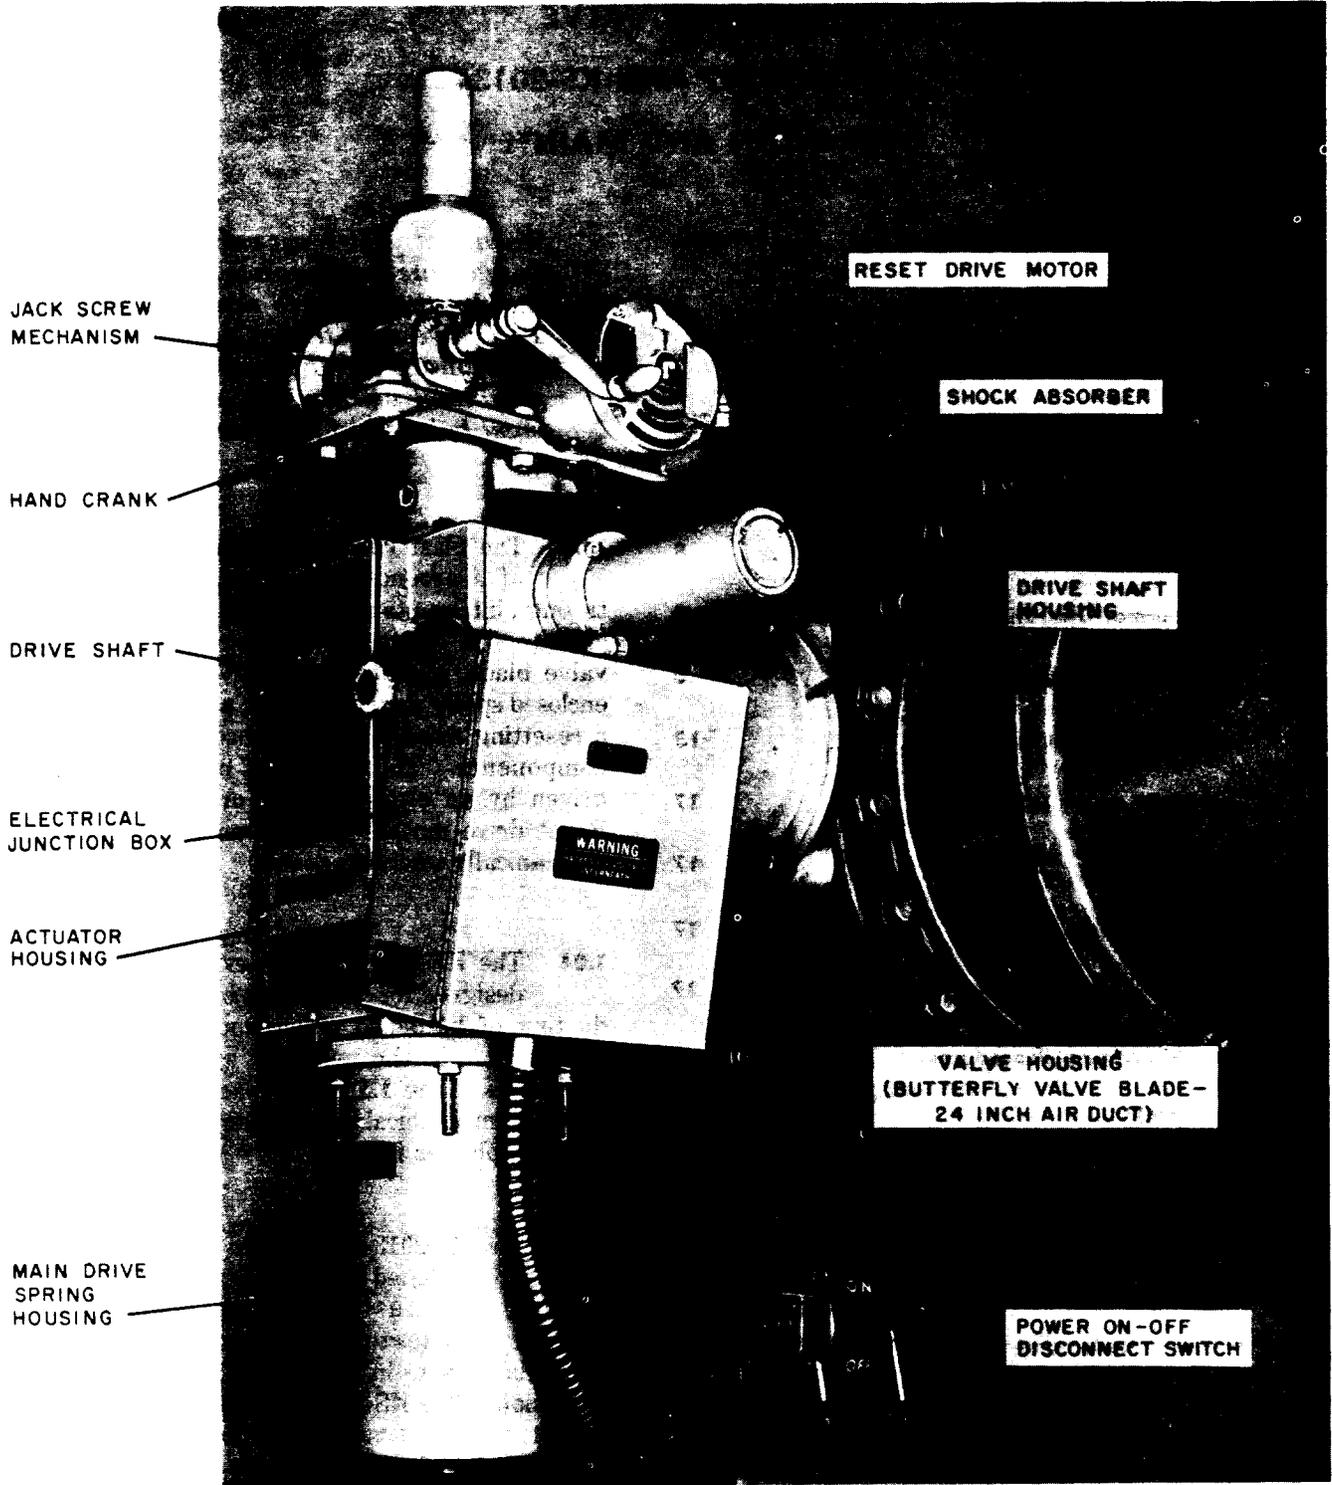
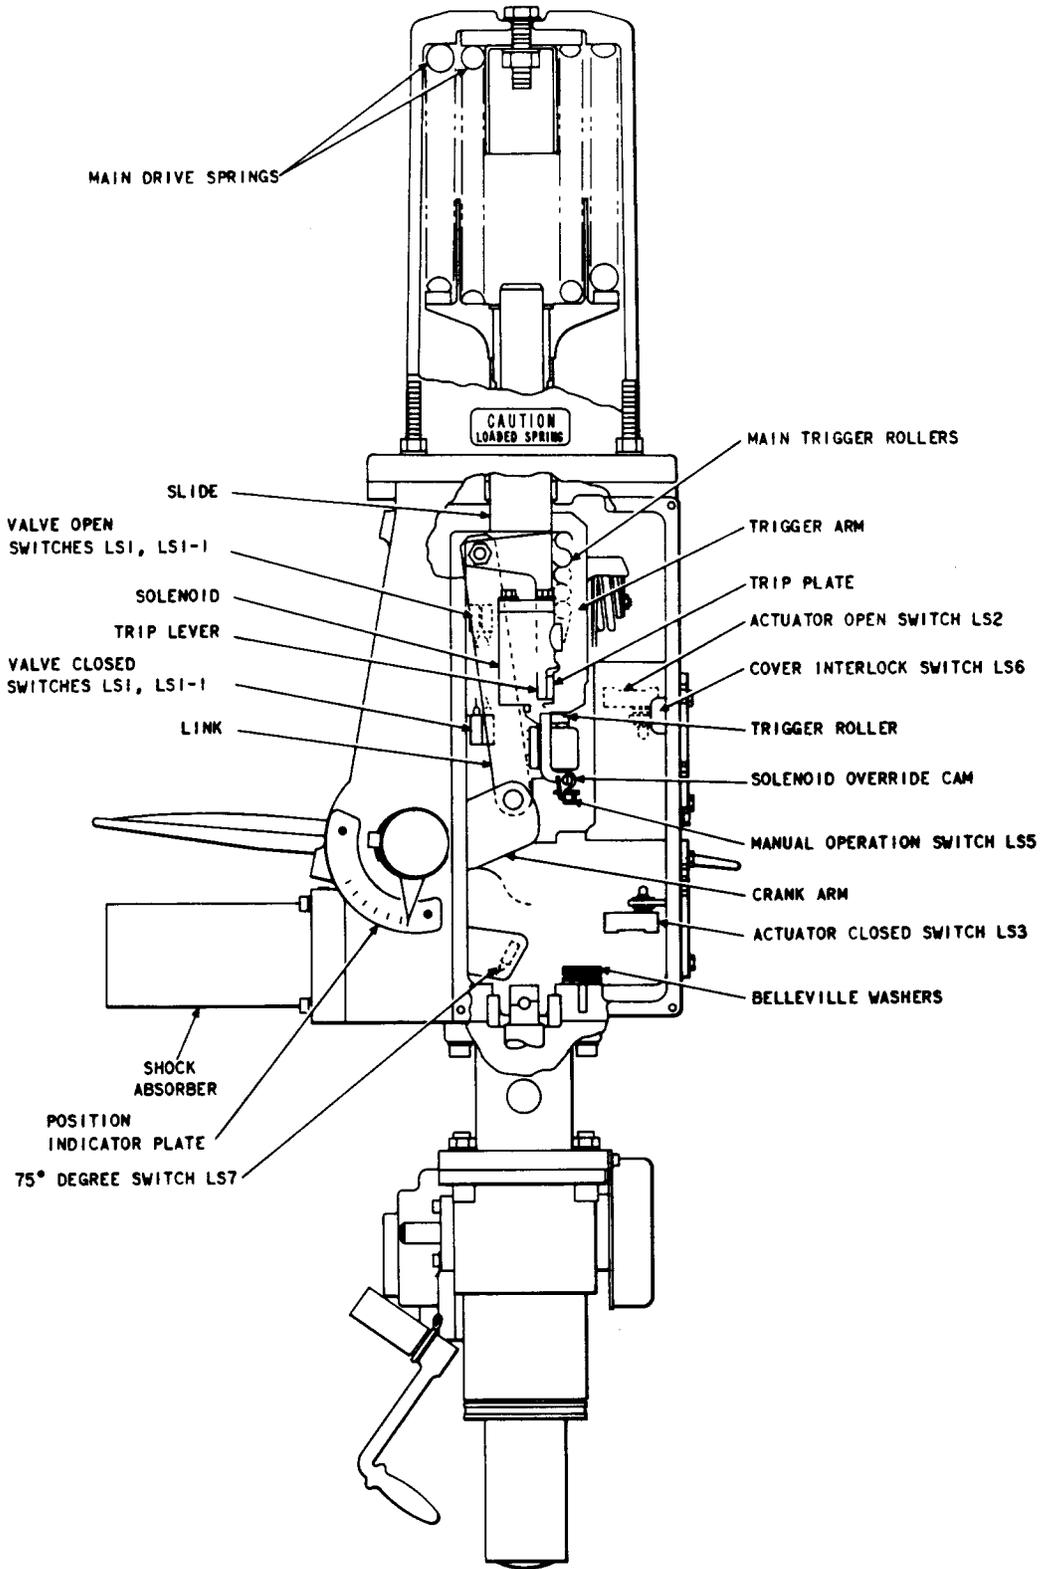

Fig. 1—KS-20134 Blast Valve (Butterfly Type)—Shown in the Inverted Position
Fig. 2—Schematic Arrangement of the Blast Valve Actuator
1.01 The KS-20134 ventilation closure blast valve and the KS-19992 turbine exhaust blast valve are butterfly type valves which are used in hardened underground telephone buildings. The valves mount between standard 24-inch pipe flanges and are designed to close within 50 to 100 milliseconds in response to an electrical signal or as a result of an air blast (see Fig. 1).
The valve blade and valve housing, the valve actuator, and reset mechanism are shown in Fig. 1. A complete schematic arrangement of the blast valve actuator is shown in Fig. 2. The electrical control circuits are shown in Fig. 3 and 4, with the physical location of the switches as shown in Fig. 2.
3.03 Valve Actuator: The valve actuator shown in Fig. 2 is bolted to the valve housing and contains the mechanism for positioning the valve blade. The energy required to close the valve is stored in two compression springs (main drive springs), one nested inside the other. These main drive springs are located in the upper cylindrical section of the actuator housing. The energy in the springs is controlled by a quick release mechanism referred to as the "trigger". The load supporting portion of the trigger consists of four in-line main trigger rollers stacked one above the other forming a column. This column supports the entire 10,000-pound-load of the main drive springs. In the valve open position, a trigger arm is restrained from moving by a trigger roller shown directly under the trigger arm in Fig. 2. (The trigger roller and the main trigger roller should not be confused, they are separate entities in themselves.) The trigger roller engages a detent in the trigger
(a) **Trigger Reset:** When the blast valve is closed, the trigger reset sequence is automatically initiated. The control switch LS-1 (Fig. 2) is actuated to close the motor circuit through the reverse motor control (RMC) and the lower limit switch LS-3. The electric drive motor then starts in the reverse direction and drives the screw jack to retract the center actuator shaft toward the bottom of the actuator housing. Near the end of the stroke, the main trigger rollers snap into the aligned position, resetting the trigger. Immediately thereafter, the upper limit switch LS-2 opens to stop the drive to the screw jack.